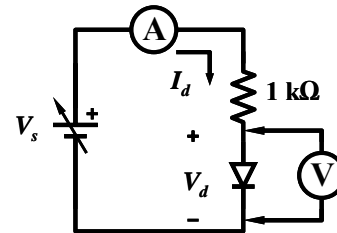

Figure 1-6 – Circuit for diode I-V measurements.
- Using the 1N4148, set up the circuit in Figure 1-6 using the DC Power Supply as the voltage source. You can use your hand-held DMM (or the oscilloscope) to measure the diode voltage, and use the bench DMM as the ammeter.